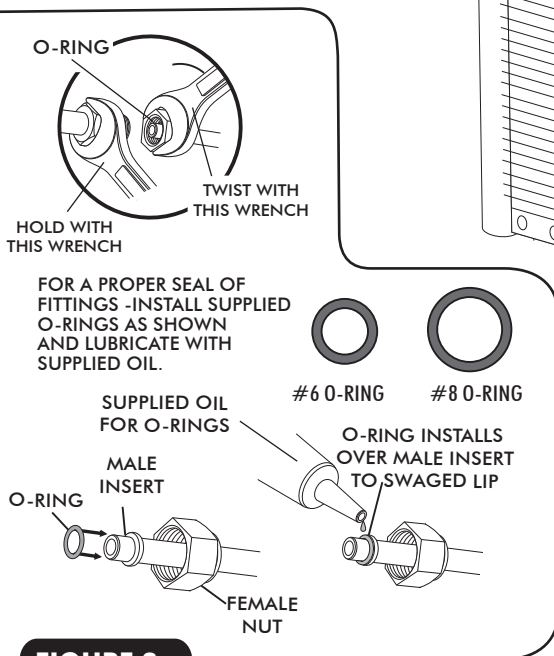

FIGURE 3a
- ☐ LUBRICATE (2) #6 O-RINGS SEE FIGURE 3a ABOVE, AND INSTALL THE #6 DRIER/COND HARDLINE AS SHOWN IN FIGURE 4. TIGHTEN FITTINGS AS SHOWN IN FIGURE 3a.
- LUBRICATE A #6 AND #8 O-RING AS SHOWN IN FIGURE 3a ON PAGE 6. INSTALL THE #6 DRIER HARDLINE AND THE #8 CONDENSER HARDLINE AS SHOWN IN FIGURE 9. TIGHTEN FITTINGS AS SHOWN IN FIGURE 3a ON PAGE 6.